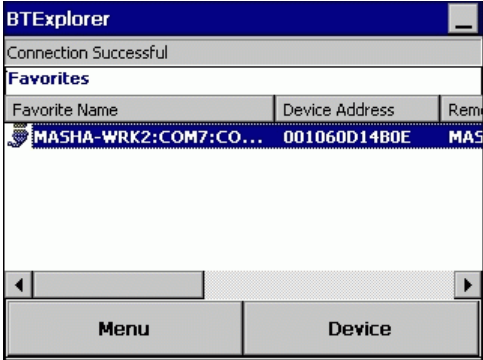

Figure 2-128 New Connection Wizard, Favorites Screen
2. Select *BTEplorer*. If a previous connection was established, the Favorites window displays (see Figure 2-128 on page 2-97).
1. On the *Favorites* window (Figure 2-128), use the keypad and select *Device > Settings > Services*.
Open the *BTEplorer* application to display the *Favorites* window (Figure 2-128).
On the *Favorites* window (Figure 2-128), use the keypad and select *Device > Settings > Device Info*.
On the *Favorites* window (Figure 2-128), use the keypad and select *Device > Settings > Security*.
On the *Favorites* window (Figure 2-128), use the keypad and select *Device > Settings > Discovery*.
On the *Favorites* window (Figure 2-128), use the keypad and select *Device > Settings > Virtual COM Port*.
On the *Favorites* window (Figure 2-128), use the keypad and select *Device > Settings > Profiles*.